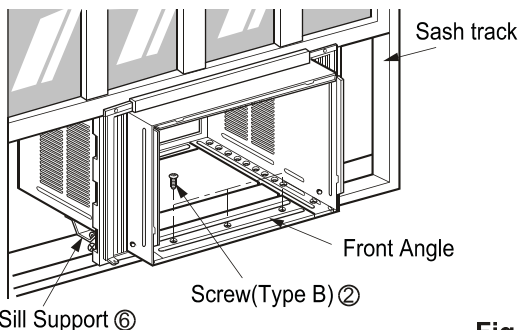

Fig. 5
5. Insert the Bottom guide into the bottom of the cabinet. (Fig.5)
6. Insert the Frame Curtain into the Upper Guide and Frame Guides.(Fig.5)
7. Fasten the curtains to the unit with 8 Type A screws. (Fig.5)
6. The cabinet should be installed with a very slight tilt (about 1/2") downward toward the outside (See Fig. 5). Adjust the bolt and the nut of Sill Support ⑥ for balancing the cabinet.
7. Attach the cabinet to the window stool by driving the screws ② [Type B: Length 16mm (5/8 inch) and below.] through the front angle into window stool. (Fig. 5)
8. Pull each Frame Curtain ⑤ to each window sash track, and repeat step 2. (Fig. 5)